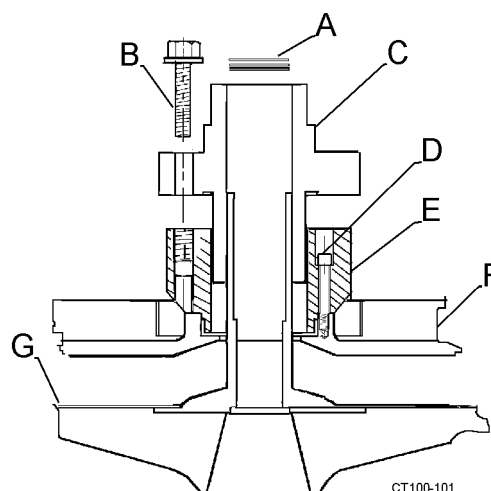

Figure 33 - Remove Seal Assembly.
NOTE: The clearance shims that position the impeller within the casing are at the end of the impeller hub (inside the seal.) Keep shims together as a set for reassembly. (Figure 33).
- Remove cap screws (Figure 33, item B) holding the cartridge seal to the seal adapter. (Figure 33, items C and E).
- Pull seal from seal adapter. (Figure 33, items C and E).
- Remove seal adapter by removing socket head cap screws (Figure 33, item D) holding adapter to the back plate.
(Figure 33, item A) are added on the drive shaft behind the impeller shaft (Figure 33, item G).